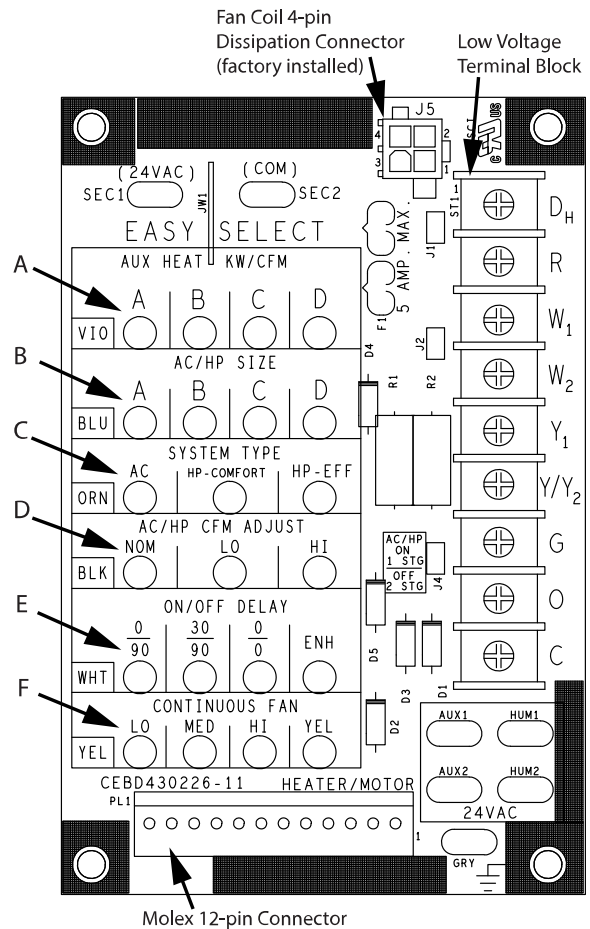
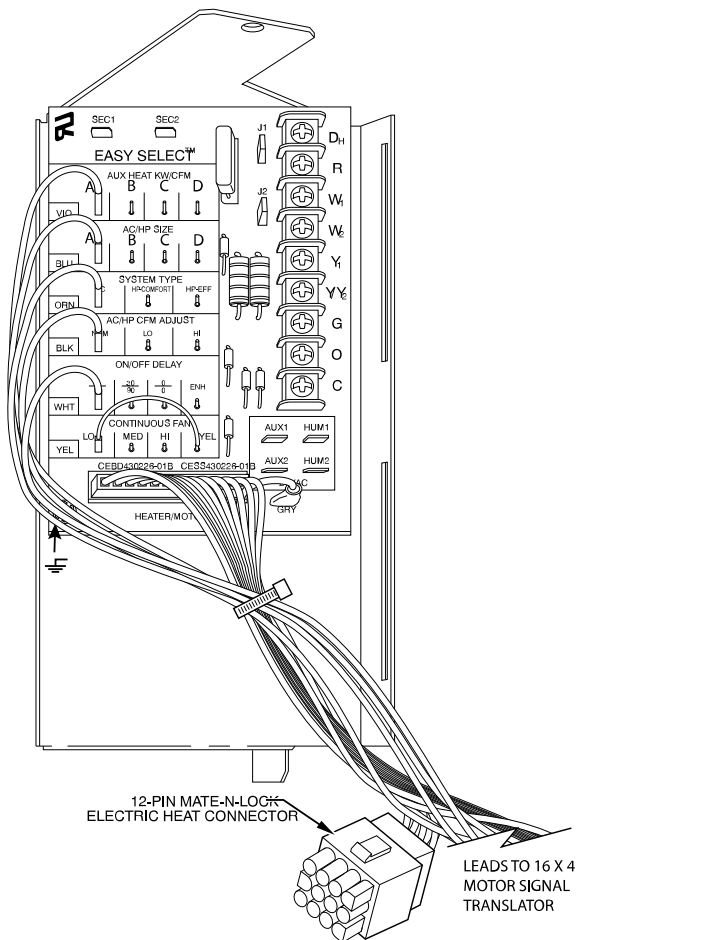

Fig. 20 – Detail of Printed-Circuit Board
Fig. 21 – Connection Detail of Printed-Circuit Board (also showing 12-pin cable) FTMA5 A95276B
Easy Select taps are used by the installer to configure a system. The ECM motor uses the selected taps to modify its operation to a pre-programmed table of airflows (see Table 8 and Table 10). Airflows are based on system size or mode of operation and those airflows are modified in response to other inputs such as the need for de-humidification (see Fig. 20 and Fig. 21 and Table 6).
Installer must select the auxiliary heat airflow approved for application with kW size heater installed. If no heater is installed, this step can be skipped. Each select pin is marked with a range of heaters for which airflow, also marked, is approved. For increased comfort select the narrowest kW range matching the heater size, for example, 0-10 for 10-kW heater. This airflow must be greater than the minimum CFM for electric heater application with the size system installed for safe and continuous operation (see Table 11 and Table 12 for airflow delivery and minimum CFM). Note that airflow marked is the airflow which will be supplied in emergency heat mode and heating mode on air conditioners when electric heat is the primary heating source. In heat pump heating mode when electric heaters are energized, the ECM motor will run the higher of heat pump heating airflow and electric heater airflow to ensure safe heater operation. The factory selection is the largest heater range approved (see Fig. 20, A as indicated).
The factory setting for air conditioner or heat pump size is the largest unit meant for application with the model of fan coil purchased. Installer needs to select air conditioner or heat pump size to ensure that airflow delivered falls within proper range for the size unit installed. This applies to all operational modes with the exception of electric heat modes (see Fig. 20, B as indicated).
3. HP-EFF - Heat Pump Efficiency provides same airflow for heating and cooling modes to increase overall HP efficiency; approximately 350 CFM per ton. The factory setting is AC. (See Fig. 20, C as indicated.)
To provide airflow at rates described above, the AC/HP ADJUST select is factory set to the nominal (nom) tap. The adjust selections HI/LO will regulate airflow supplied for all operational modes, except non-heat pump heating modes. HI provides 15% airflow over nominal unit size selected and LO provides 10% airflow below nominal unit size selected. Adjust selection options are provided to adjust airflow supplied to meet individual installation needs for such things as noise, comfort, and humidity removal (see Fig. 20, D as indicated).
Four motor operation delay profiles are provided to customize and enhance system operation (see Fig. 20, E as indicated). Selection options are:
3. HI speed - move connector of HI, 100% cooling mode airflow (see Fig. 20, F as indicated).
The following fan coil configuration is recommended for maximum heating and cooling/dehumidifying comfort (see Fig. 20):
7. If the fan coil is installed with Heat Staging capable electric heaters, remove jumper J2 (see Fig. 20).
The AUX and HUM terminals on the Easy Select Board are tied directly to the G terminal, and provide a 24VAC signal whenever the G terminal is energized (see Fig. 20).